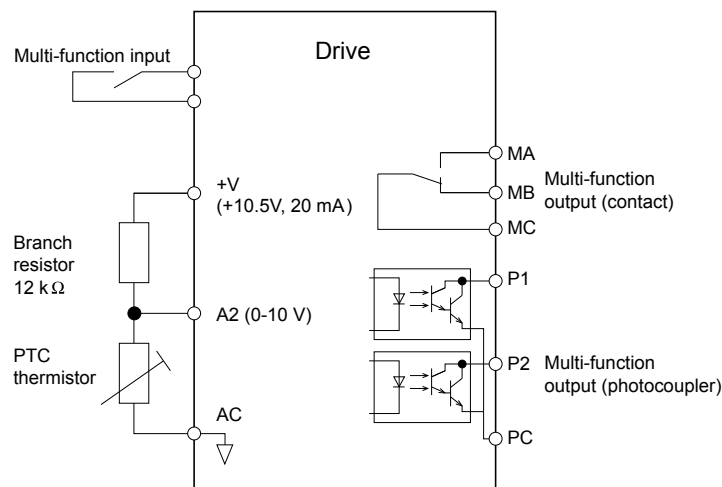

**Figure 5.67** Protection Operation Time for General Purpose Motors at the Rated Output Frequency
**Figure 5.67** illustrates an example of the electrothermal protection operation time using a general-purpose motor operating at the value of E1-06, Motor Base Speed, with L1-02 set to one minute.